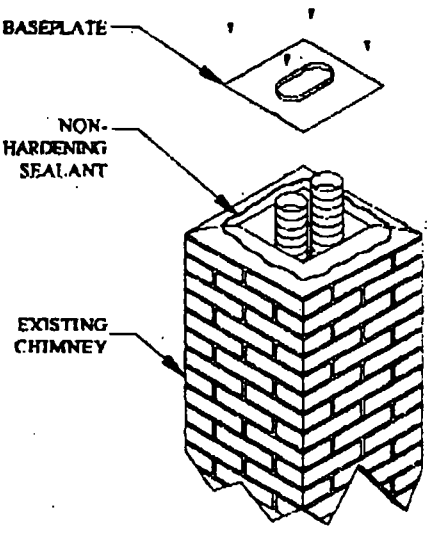

FIGURE 5
Step 6. At the top of the chimney, slide the Baseplate over the two ends of the Flex Liner and secure it to the surrounding masonry using masonry anchor bolts. Before installing the baseplate, run a bead of non-hardening sealant between the Baseplate and the masonry to prevent moisture from entering the chimney. (Figure 5)